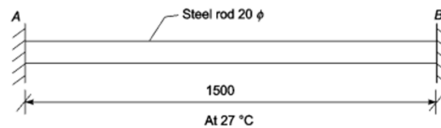

Figure 1
- A steel rod, 20 mm in diameter and 1.5 m long, is constrained between supports A and B as shown in Figure 1. The material is stress-free at 27°C. Determine the stress in the material when the temperature increases to 50°C i) If the supports are unyielding ii) If the support at B yields by 0.1 mm. E for steel = 200 GPa and α of steel = $12 \times 10^{-6}/^\circ\text{C}$. [BL: Apply] CO: 1|Marks: 7]